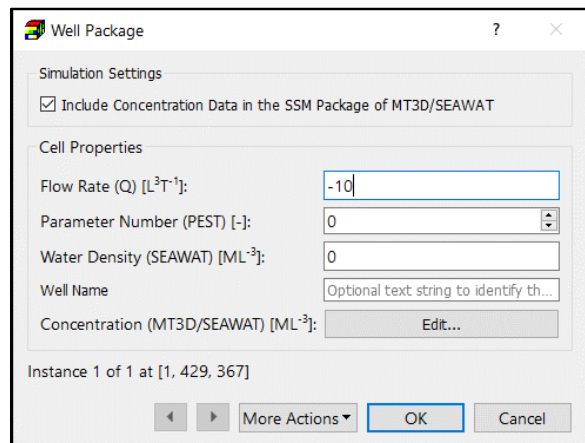

Figure 93. The Well Package dialog box for specifying cell properties
2. **Cell-by-cell input method**: Figure 93 shows the dialog box for specifying cell properties.
- **Flow Rate (Q) [L³T⁻¹]**: Negative values are used to indicate pumping wells, while positive cell values indicate injection wells. The injection or pumping rate of a well is independent of both the cell area and the hydraulic head in the cell. MODFLOW assumes that a well penetrates the full thickness of the cell. To simulate wells